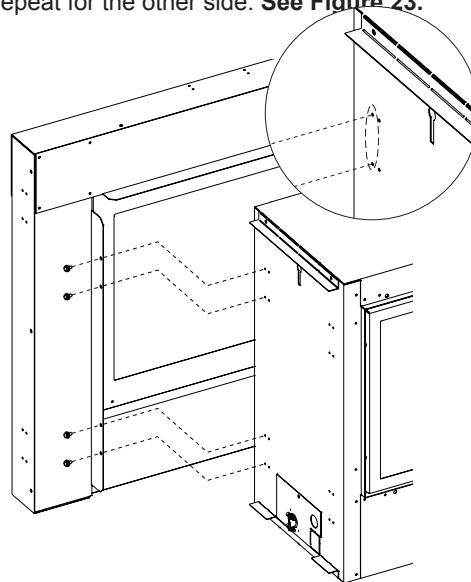

Figure 23
- 3e. Secure the outer glass and frame to the side of the fireplace and repeat for the other side. See **Figure 23**.